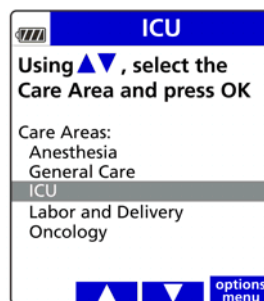

Figure 117. Select Care Area Screen.
3. Press the arrow soft keys to select the Care Area and press **OK**. See Figure 117.